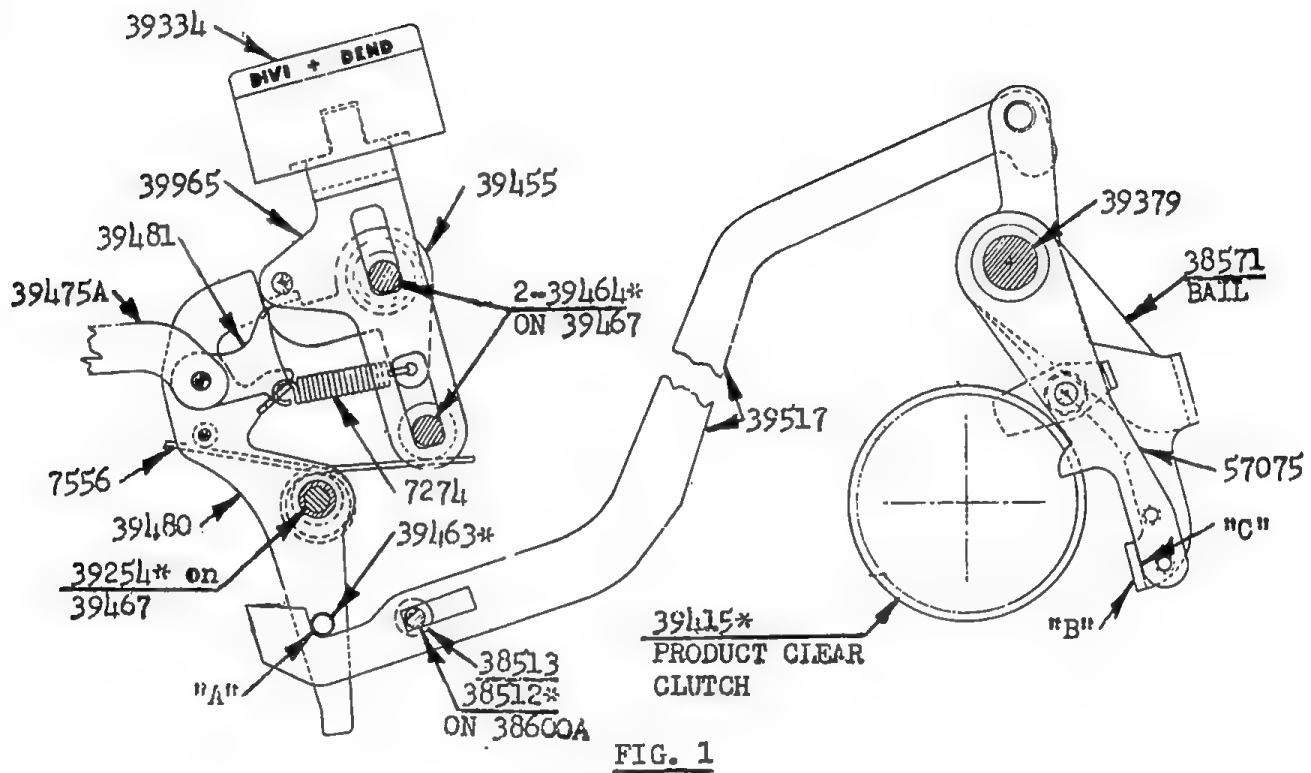

FIG. 1
1. (Fig. 1). Depression of the Dividend Key Stem 39965 releases the Dividend Entry Hatchet-39480 through Interponent 39455. The Stud-39463* on the lower portion of Hatchet-39480 pulls the Middle Dial Clutch Control Link-39517 at surface "A" forward, rocking the Control Bail-38571 counter-clockwise. Ear "B" on Bail-38571, underlies surface "C" on the
3. NOTE: Rotation of Clear Shaft-39053 also opens the Middle Dial Clear Clutch. However, in the particular case of the Dividend Entry Key the Middle Dial Clear Clutch is opened directly through Link-39517, (Fig. 1), and can therefore not be disabled by the M. D. Lock Key.